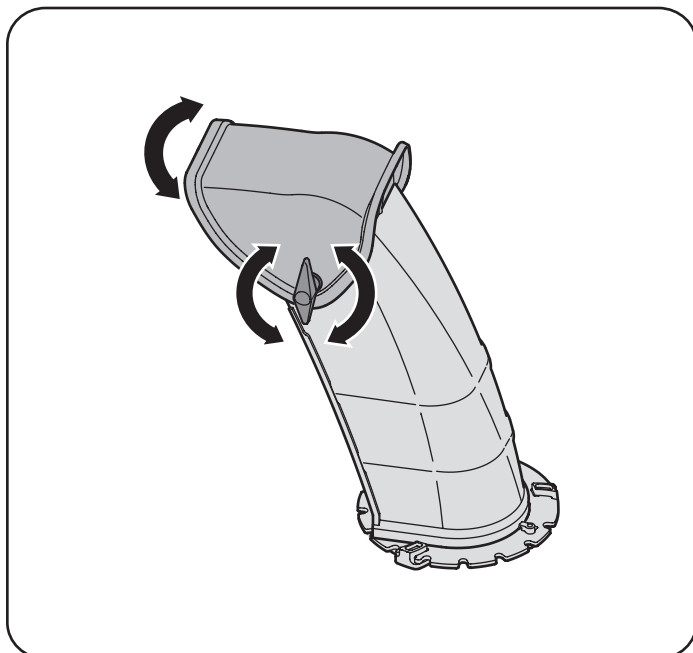

Figure 15
2. Pivot the chute upward or downward before retightening the wing knob. See Figure 15.